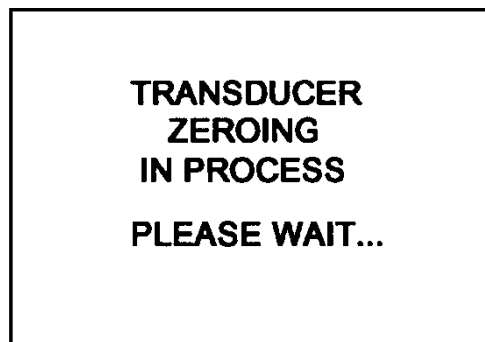

Figure 26
- 14.4.2.5 Press the front panel P→O key and verify that the display changes to "TRANSDUCER ZEROING IN PROCESS PLEASE WAIT..." per Figure 26, for approximately 5 seconds.